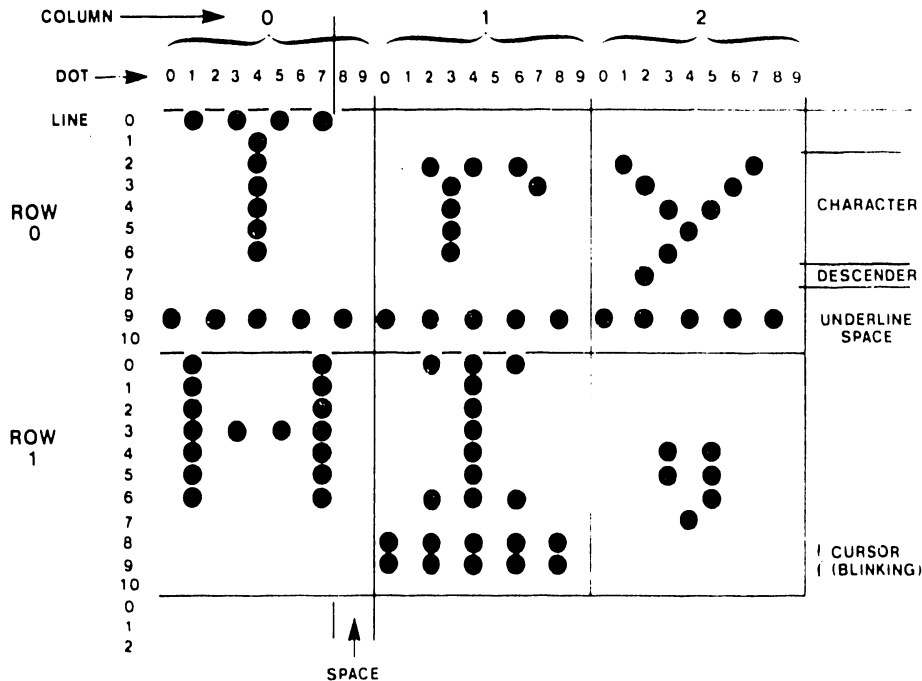

Figure 2-3. Dot Matrix Display
2.3.1.2 Dot Matrix Display (Figure 2-3)